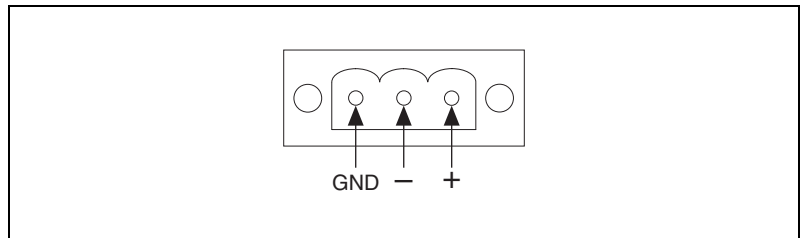

Figure 2-2. Power Receptor and Pin Assignment
4. Connect the power connector to the power receptor on the TPC-2012. The power receptor pin assignment is shown in Figure 2-2.